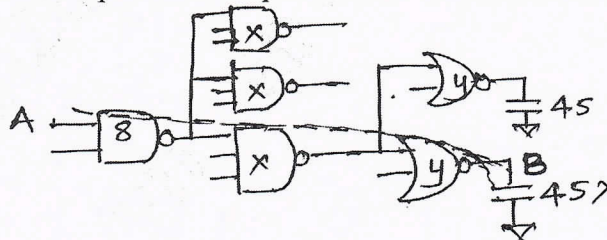

Fig.Q.4(c)
c. Estimate the minimum delay of the path from A to B in Fig.Q.4(c) and choose transistor sizes to achieve this delay. The initial NAND2 gate may present a load of 8λ of transistor width on the input and the output load is equivalent to 45λ of transistor width.